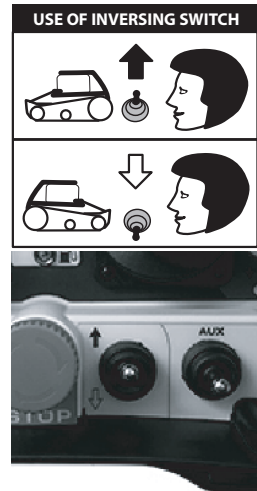

Fig 13
This lever reverse the motion. Move the Joystick (6) FORWARD gradually and continuously. The machine will move ahead. The machine can be easily controlled by a finger that controls both speed and direction. It is possible to reverse the Joystick function when the machine moves forward and towards you (Fig 13).